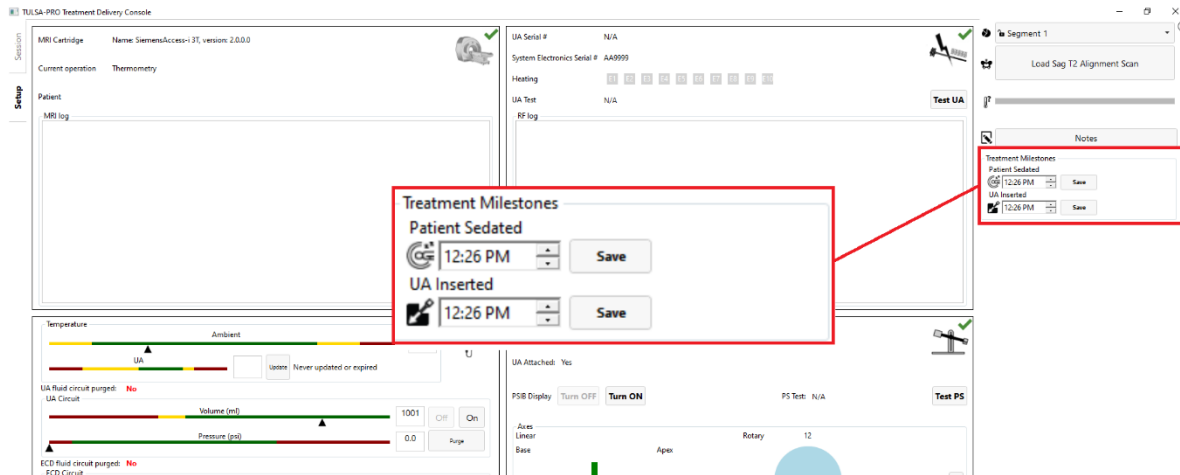

Figure 30: Entering Treatment Milestones in the TDC Setup Workspace
1. In the TDC *Setup* Workspace, enter the sedation and UA insertion times under **Treatment Milestones** (Figure 30).